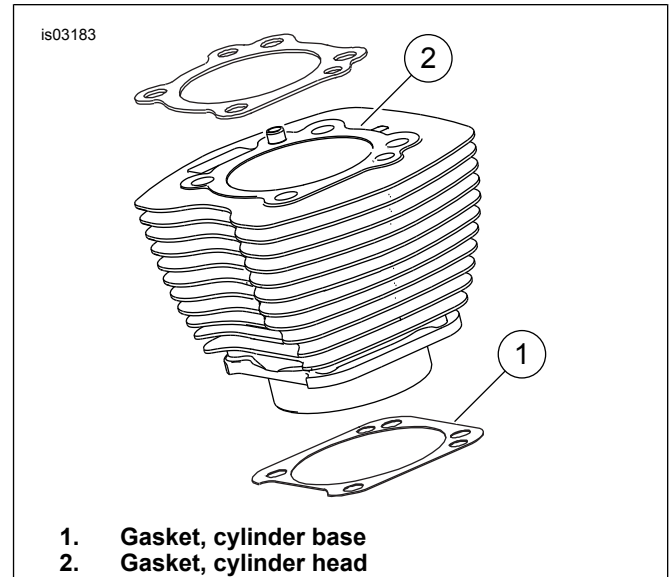

Figure 1. Cylinder Gaskets
Figure 1. The 4.060 in cylinder base gasket (1) and cylinder head gasket (2) eliminate the need for O-rings. Do not use O-rings on cylinder dowels or cylinder spigots.